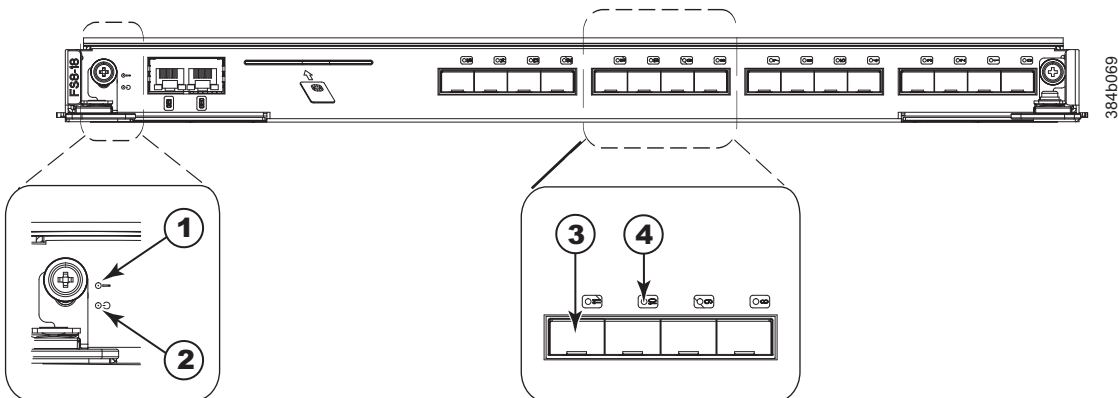

Figure 24. FS8-18 encryption blade
- Figure 24 on page 57 illustrates the FS8-18 encryption blade